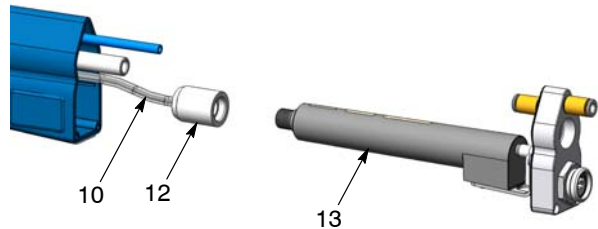

Figure 40 Disconnecting Electrode Cable
8. See Figure 40. Unscrew the multiplier nut (12) from the multiplier (13).
3. See Figure 40. Insert the spring end of the electrode cable (10) into the multiplier well until it bottoms out, then screw the multiplier nut (12) onto the multiplier until tight.